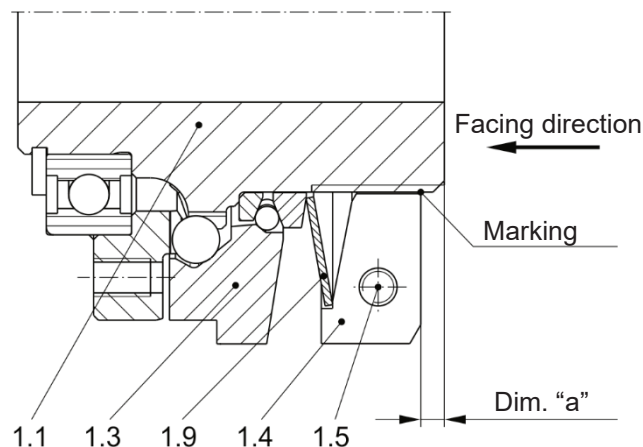
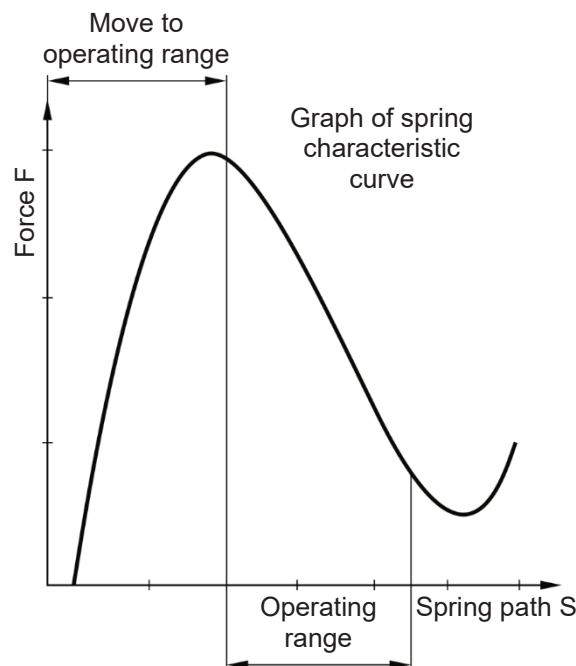

Fig. 5
Fig. 7
Torque adjustment is carried out by turning the adjusting nut (1.4). The installed cup springs (1.9) are operated in the negative range of the characteristic curve (see Fig. 7); this means that a stronger pre-tensioning of the cup spring results in a decrease of the spring force.
It is possible to check the **"Spring operation in the operating range"** (Fig. 7) using the dimension "a" (distance from the adjusting nut (1.4) facing side to the hub (1.1) facing side, as shown in Fig. 5).
You should be facing the adjusting nut (1.4) as shown in Figs. 5 and 6.
d) The required torque results from the marking overlap on the hub (1.1) and the percent value on the adjusting nut (Item 1.4 / Figs. 5 and 6).
Adjusting the adjusting nut (1.4) or distorting the cup spring (1.9) outside of the cup spring characteristic curve (see Fig. 7) stops the clutch functioning.